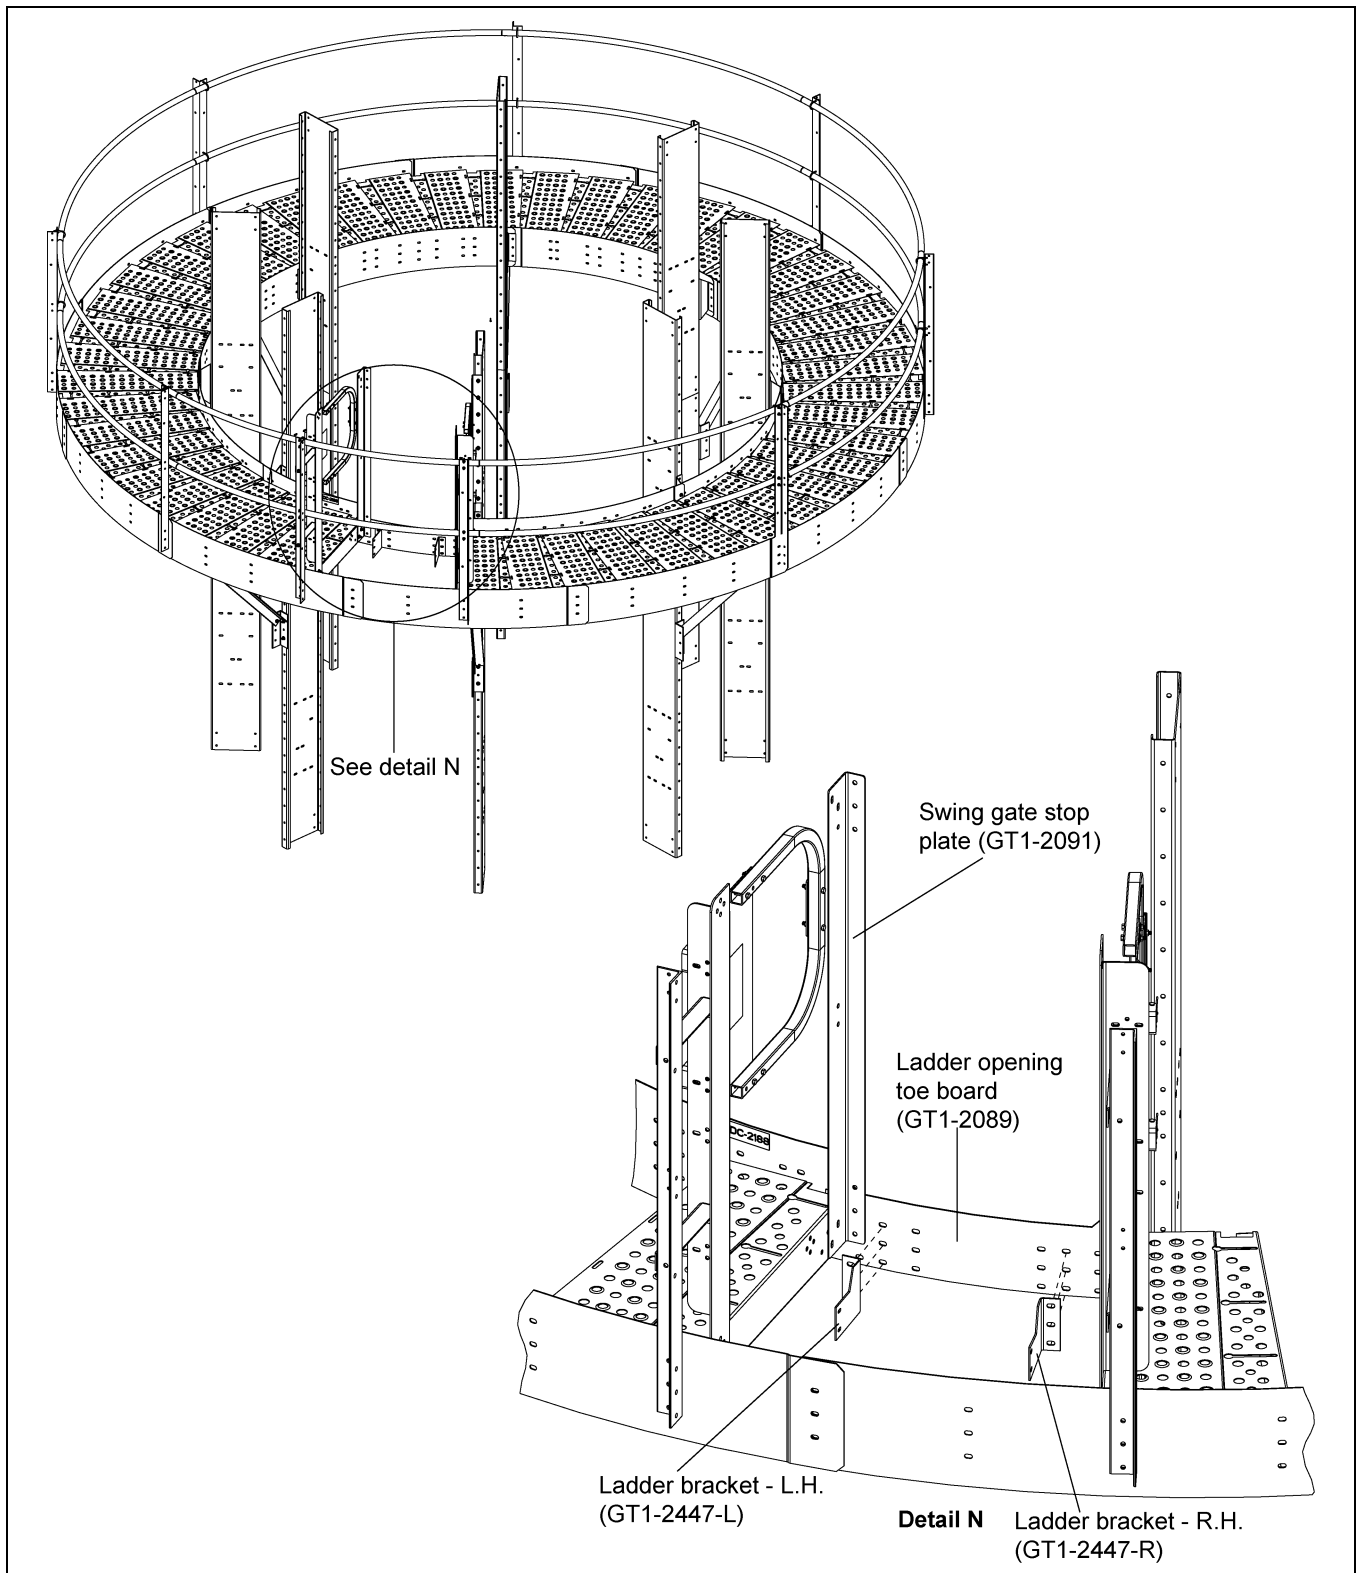

Figure 4Y
1. Install the ladder brackets (GT1-2447-L and GT1-2447-R) to the ladder opening toe board (GT1-2089) using 3/8"-16 x 1" JS grade 8 or grade 8.2 bolts (S-7485) and 3/8"-16 ZN grade 5 nuts (S-968). (See Figure 4Y.)